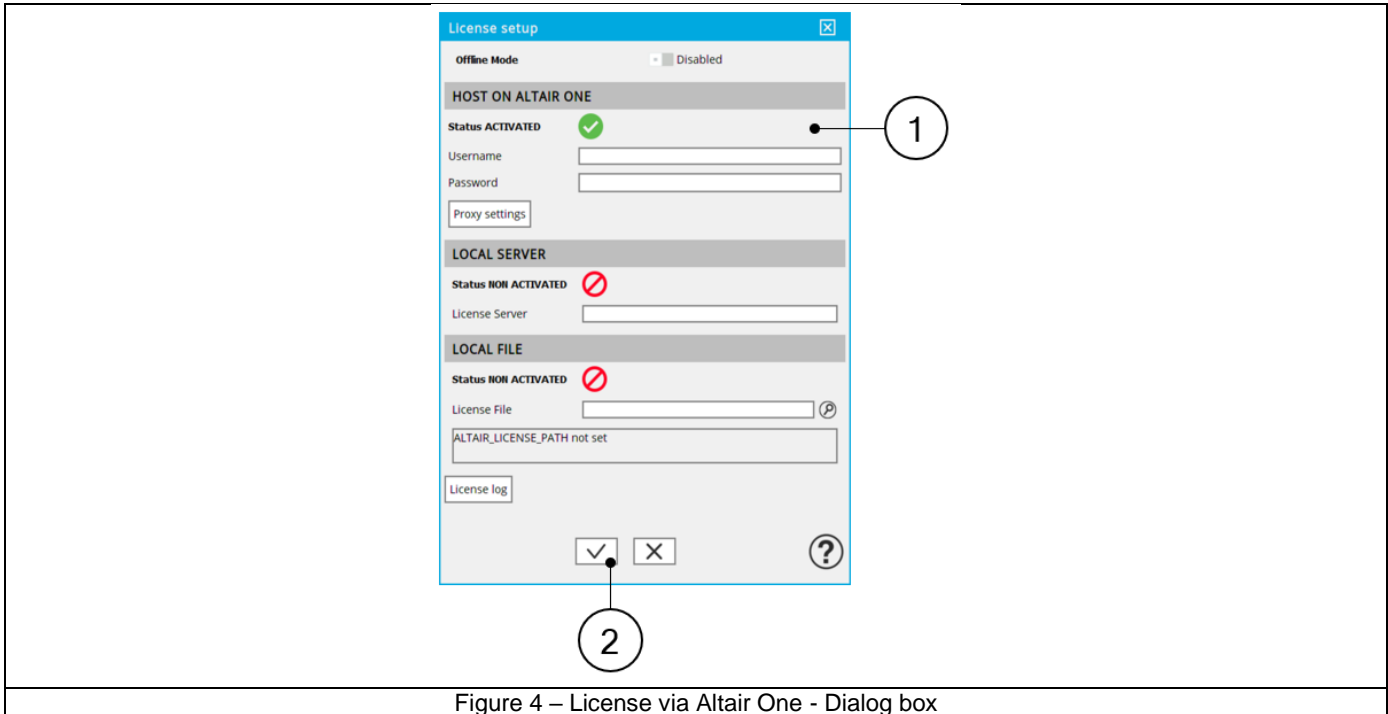

Figure 4 – License via Altair One - Dialog box
- 2) Enter the Username and Password you created for your Altair One account (Mark 1 - Figure 4 – License via Altair One - Dialog **box**).
- 3) Click on the apply button (Mark 2 - Figure 4 – License via Altair One - Dialog **box**). The status changes to “ACTIVATED” when the license is validated, or you will receive an error message if unsuccessful.